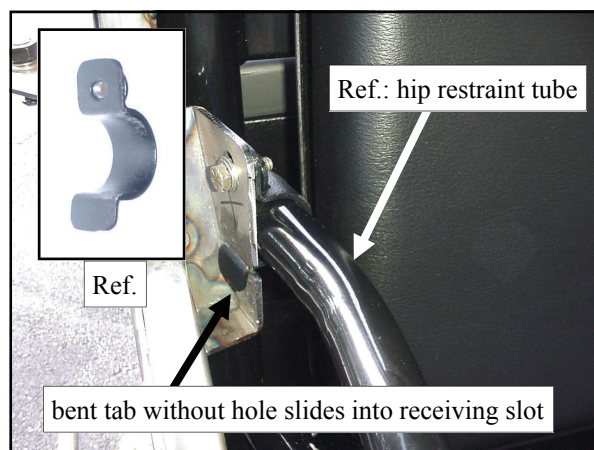

Fig. 3.2 View from passenger's side
3.2 Carefully open the door to the midway or slightly beyond position to gain access for installing the hip restraint bracket. Insert the tongue of the bracket as shown in fig. 3.2 and rotate the bracket up and install one 5/16-18 x 1" long hex head bolt, one internal tooth locking washer, and one flat steel washer into the factory installed weld nut. Leave bolt loose.